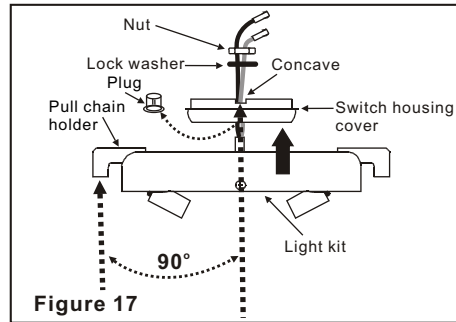

Figure 17
1. Remove the stainless steel plug from the switch housing cover (Fig. 17), attach the light kit to the switch housing cover by feeding the light kit wires (black and white) through the hole of switch housing cover and then screw it onto the switch housing cover by nut & lock washer provided. Be sure it is tight enough to prevent light kit from vibrating loose. **NOTE:** Make sure that the concave of the switch housing cover and the pull chain holders are in an angle of 90 degrees for pull chains go through the pull chain holders easily. (Fig. 17)